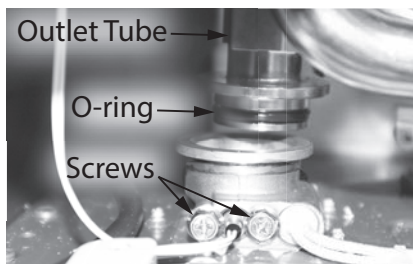

Figure 232 - O-ring location
**24** Install the new (21.8 x 2.4) O-ring as shown in Figure 232.